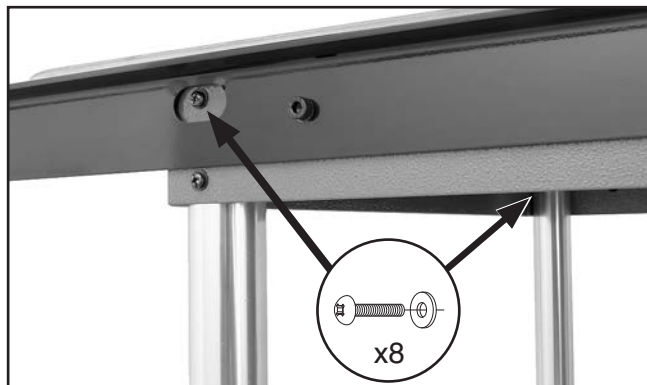

Figure 33. Support leg fastened to main extension table.
7. Fasten the support legs to the main extension table with (8) M6-1 x 12 Phillips head screws and 6mm flat washers (see **Figure 33**).